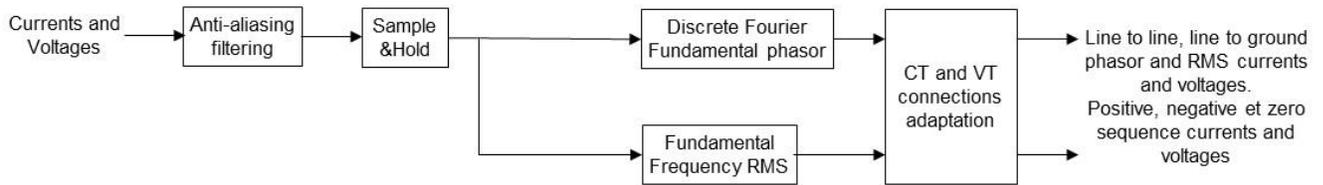

Figure 1-1 Subsystems of the Signal Acquisition function.
The Signal Acquisition functions are present in all relay models. It is set by the parameters entered in the “Electrical Characteristics” tab and uses the same inputs as the relay device. It samples the inputs from the current (CT) and voltage (VT) transformers, and processes them into phasors and RMS values utilized thereafter by the protection functions. The following scheme (Figure 1-1) describes the processing steps.
This block is shown in Figure 1-1. The phasors of the inputs for the fundamental frequencies are calculated by a cosine filter. The phasor values are held between two sampling times.
This block is shown in Figure 1-1 (Fundamental Frequency RMS).
This block is shown in Figure 1-1.